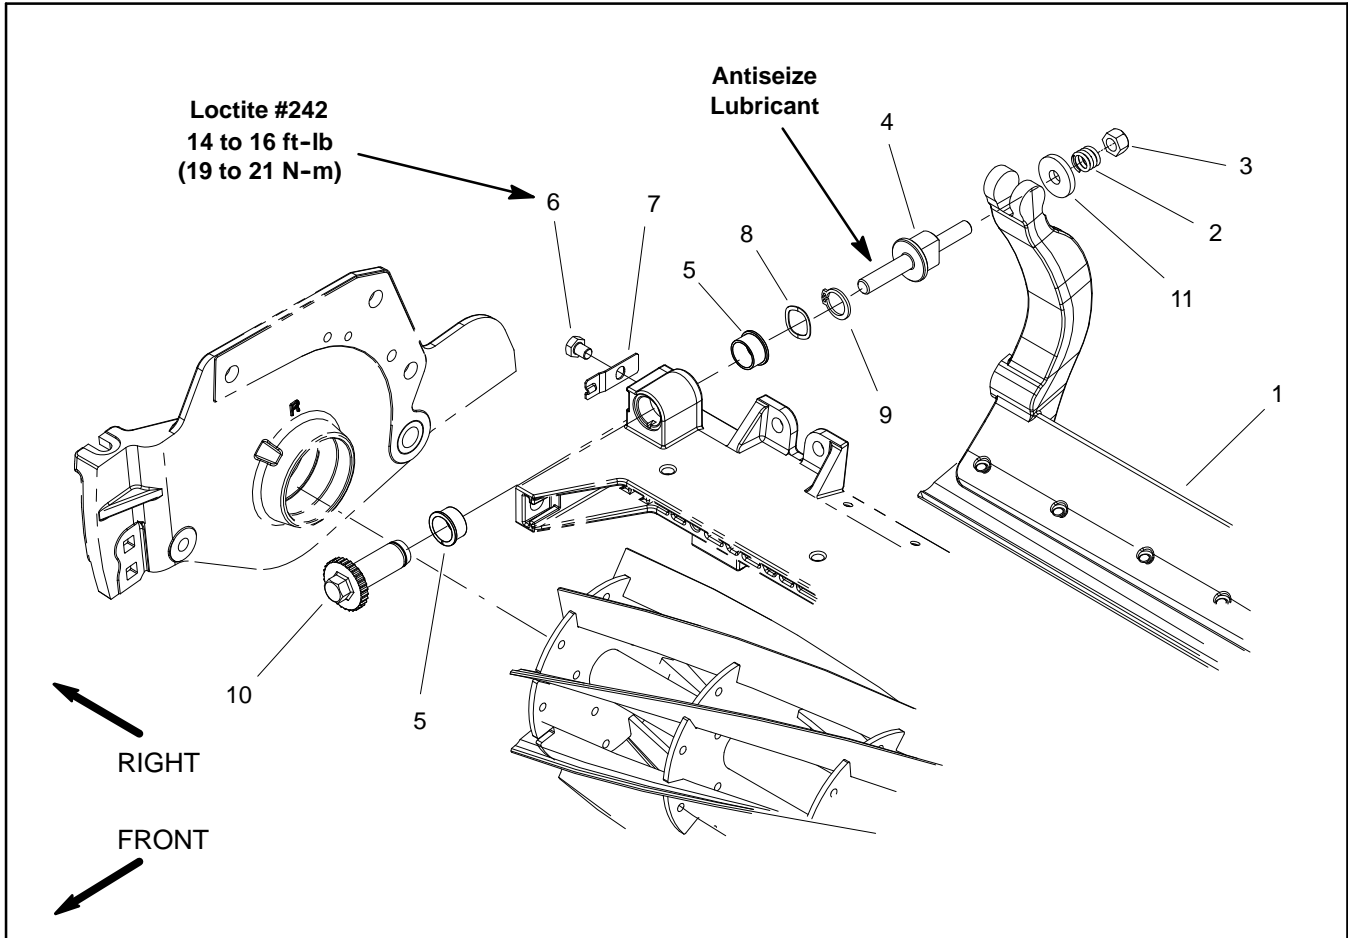
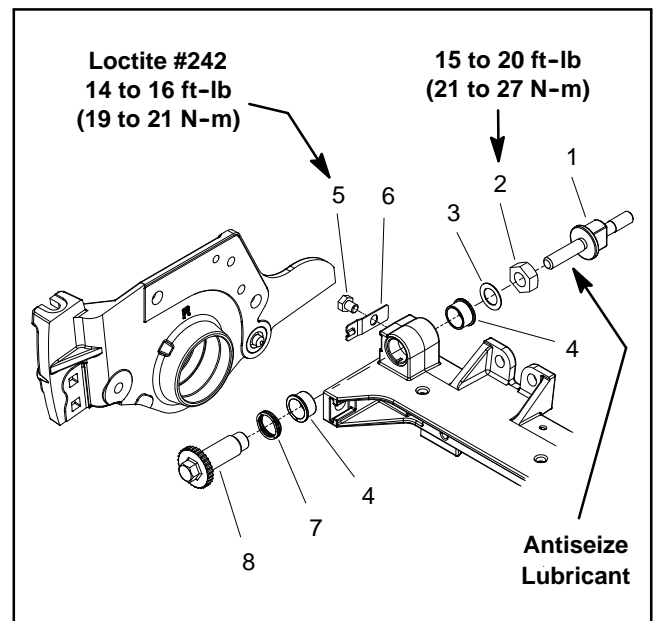

Figure 21
Figure 22
NOTE: The bedbar adjuster system for early production DPA cutting units (Fig. 22) used a retaining ring on the end of the bedbar adjuster shaft. Current production DPA cutting units (Fig. 21) include a lock nut on the end of the bedbar adjuster shaft. The bedbar adjuster service procedures for either style of adjuster shaft is very similar.
Removal (Fig. 21)
3. Unscrew bedbar adjuster screw (item 10) from the bedbar adjuster shaft (item 4).
A. On early production cutting units (Fig. 21), remove retaining ring and wave washer from adjuster shaft. Slide adjuster shaft from cutting unit frame.
B. On current production cutting units (Fig. 22), remove lock nut and flat washer from adjuster shaft. Slide adjuster shaft and wave washer from cutting unit frame.
5. Inspect flange bushings (item 5) in cutting unit frame and remove if necessary.
6. If detent (item 7) is damaged, remove it from cutting unit side plate by removing the cap screw (item 6).
Installation (Fig. 21)
1. If detent (item 7) was removed, apply Loctite #242 (or equivalent) to threads of cap screw (item 6) and secure detent to cutting unit side plate with cap screw. Torque cap screw from **14 to 16 ft-lb (19 to 21 N-m)**.
2. If flange bushings (item 5) were removed, apply anti-seize lubricant to bore of cutting unit frame. Align key on bushing to slot in frame and install bushings into frame.
A. On early production cutting units (Fig. 21), slide bedbar adjuster shaft into flange bushings in cutting unit frame. Secure adjuster shaft with wave washer and retaining ring.
B. On current production cutting units (Fig. 22), slide wave washer onto adjuster shaft and then slide adjuster shaft into flange bushings in cutting unit frame. Secure adjuster shaft with flat washer and lock nut. Tighten lock nut to shoulder of adjuster shaft and then torque lock nut from **15 to 20 ft-lb (21 to 27 N-m)**.